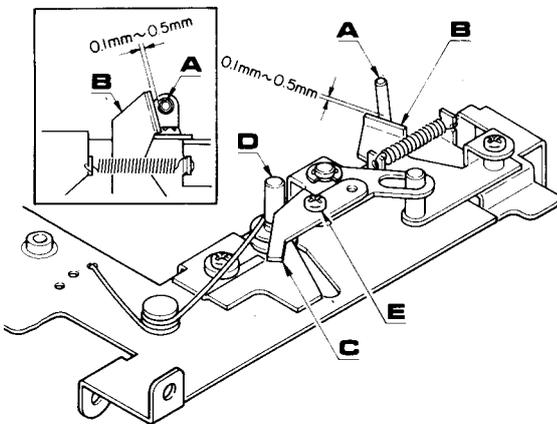

Fig. 1
1. Lay the mechanical assembly by its side as shown in Figure 1.